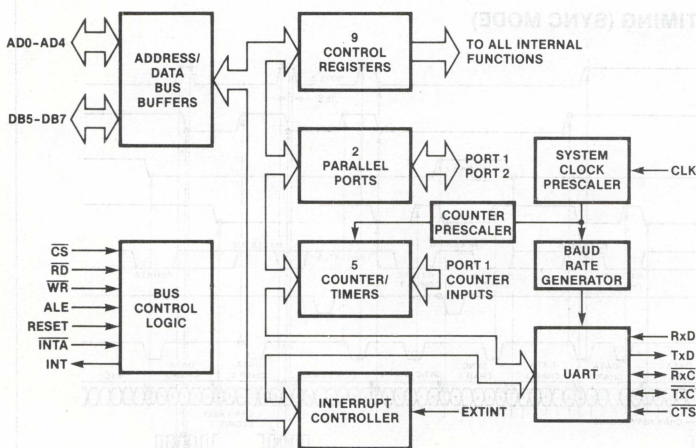

Figure 1. MUART Block Diagram
1. AC timings measured $V_{OH} = 2.0$, $V_{OL} = 2.0$, $V_{OL} = 0.8$, and with load circuit of Figure 1.
2. Chip Select (CS) and Command/Data (C/D) are considered as Addresses.